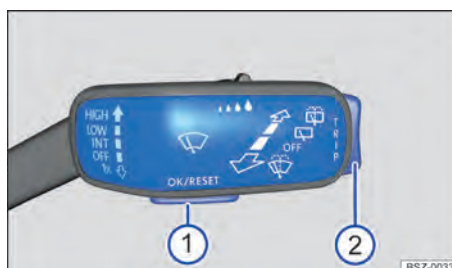

Fig. 14 On the right of the steering column: buttons on the wiper lever (illustration).
any menus. Some warnings can be confirmed and hidden with the **OK/RESET** button → Fig. 14 ①.
2. Press the **OK/RESET** → Fig. 14 ① button, several times if required, if a message or the vehicle pictogram is displayed.
3. Hold down the rocker switch TRIP → Fig. 14 ② to display the menus → page 28 or to return to the menu selection from a menu or an information display.
4. To browse through the menus, press the rocker switch TRIP → Fig. 14 ② up or down.
5. To open the menu or information display shown, press the **OK/RESET** button → Fig. 14 ① or wait until the menu or information display opens automatically after a few seconds.
1. In the displayed menu, press the rocker switch TRIP → Fig. 14 ② at the top or bottom until the desired menu option is marked.
2. Press the **OK/RESET** button → Fig. 14 ① to make the required changes.